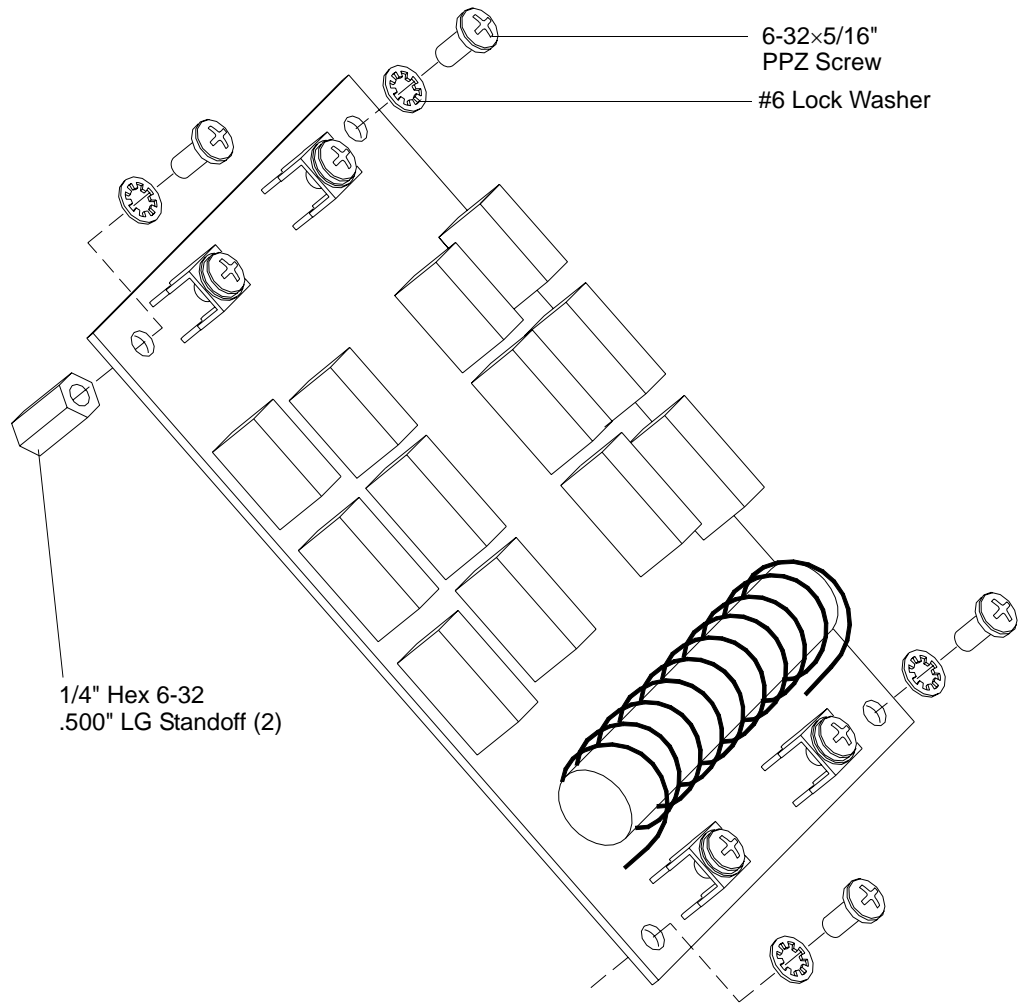

Figure 2-18: Ignitor PCB Standoff Removal
Step 8. Remove two 1/4" hex standoffs from ignitor PCB by removing one 6-32x5/16" PPZ screw and #6 lock washer. Install in same place on new ignitor PCB. **Figure 2-18.**